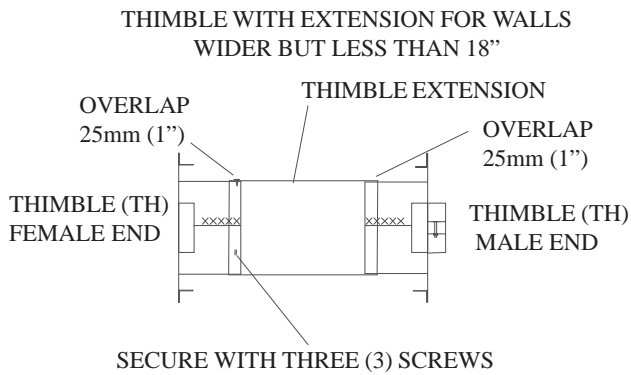

FIGURE 5
fabricate a WALL THIMBLE EXTENSION of galvanized sheet metal of 26 gauge (see FIGURE 5). The EXTENSION can be trimmed so that it overlaps each of the THIMBLE sleeves by at least 75mm (1"). It is to be attached to the female end (non crimped) of the THIMBLE with three (3) sheet metal screws. Proceed with the installation as described above.